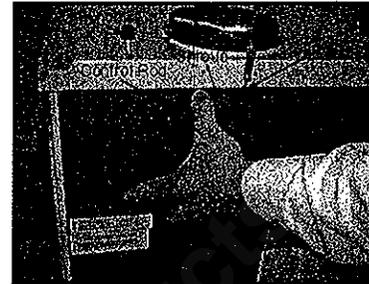

Figure 2BK - Fan Installation on Backshield
5. Slide the Control Rod through the holes in the Blower Shroud and attach the Shroud onto the back of the unit with the screws provided. See Figure 2BK. If there aren't holes in the Backshield, it will be necessary to drill holes for the screws.